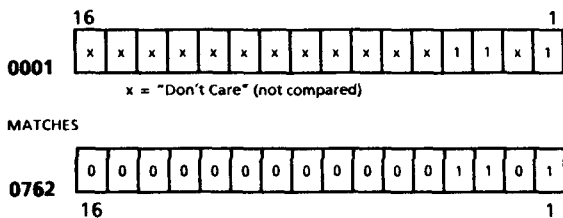

Figure 11.11A Step #2 Advance
7. Sequencer step #2. Assume the initial conditions of this example are unchanged and that no Operating Mode register bits are set to "1". Fix the output bit pattern for step #2 such that bits 1, 4 and 5 of register 0004 are to be set to "1" (all other bits "0"). This is accomplished by setting register 0769 to 25 (0019H). Figures 11.11A and 11.11B are the requirements and results of Sequencer step #2.
When register 0001 matches register 0762 (as shown in Figure 11.11A), and register 0753 ≥ register 7610 (step #1 has been running for at least 60 seconds), the following occurs: